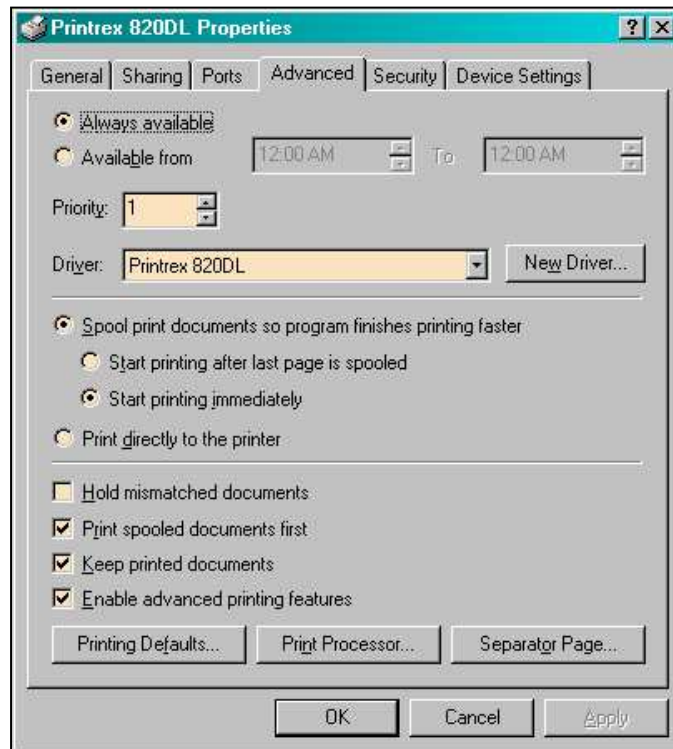

Figure 17
2. Select the Advanced tab (Figure 17)....
8. Windows will then copy files from the floppy disk, and return to the Properties dialog, Advanced tab, as first seen in Figure 17.